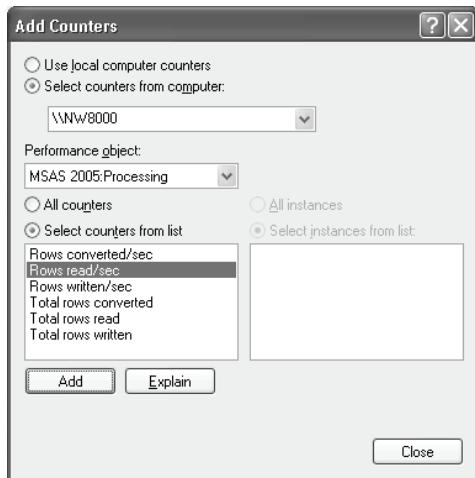

Figure 13.23 The SSAS 2005 performance counters are found under the MSAS 2005 performance object category.
2. Enter the server name in the *Select counters from computer* dropdown (Figure 13.23).
- In *Select counters from list*, select the Rows read/sec (Figure 13.23). This counter shows how fast the server processes rows from the relational database expressed in rows/sec.